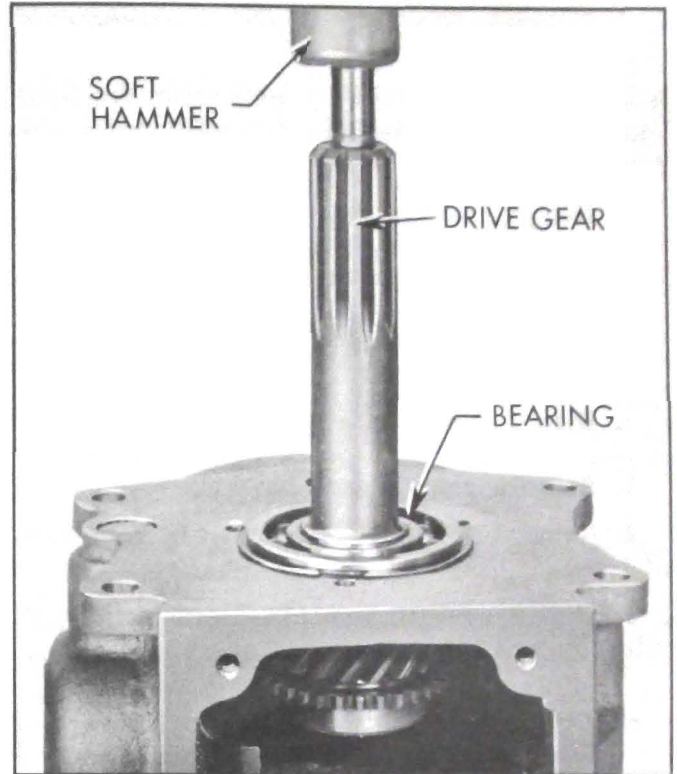

Figure 4-19—Removing Main Shaft or Drive Gear Bearing
13. If bearings on main shaft and/or drive gear are to be replaced, remove shaft snap ring and drive bearing off shaft. See Figure 4-19. Remove slinger washer from drive gear shaft and remove outer snap rings from bearings.